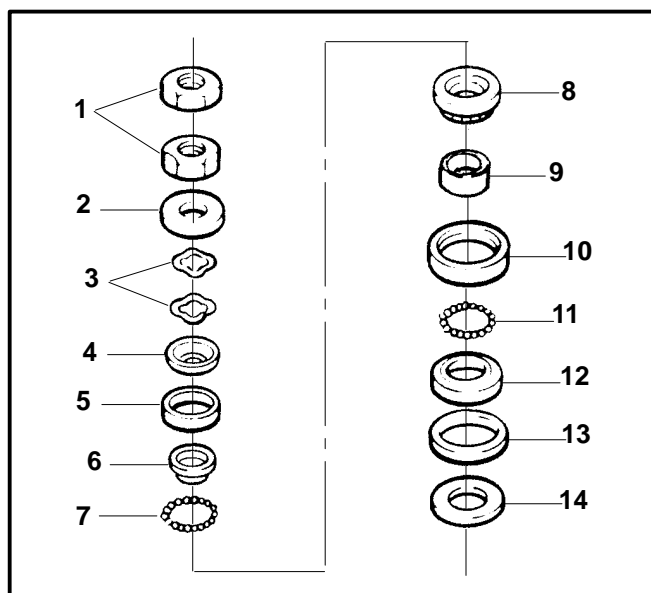

FIGURE 18
- Care must be used in removing the fork. There are (28) loose ball bearings in the bottom and (20) loose ball bearings on the top end of fork tube in the frame. Refer to Figure 18 for proper parts stack-up.
9. Place large washer onto fork. See Figure 18 for proper location of parts.
11. Install upper fork bushing with bearing cup, 3/16" (4.7 mm) balls, cone, dust seal, washer, two wave washers, dust seal and cover. Refer to Figure 18 for proper location of parts.